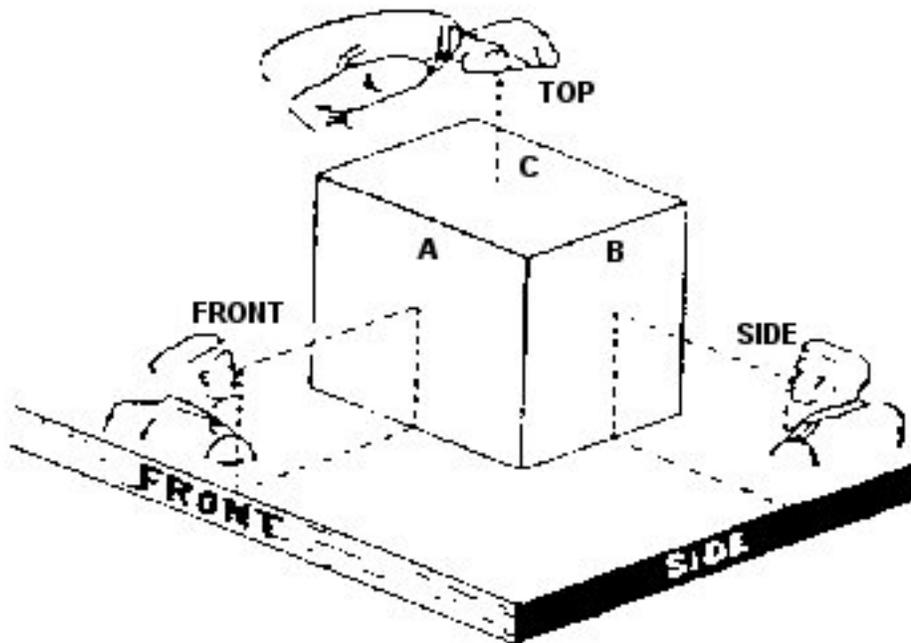

Figure 1. Print or Isometric View
2.4. Print or Isometric View. A print or isometric view is a guide for the fuel systems maintenance specialist. It is the copy of the drawings, which includes dimensions of the structure or equipment. It will have most of the information you need to perform maintenance. A print usually has three views: top, front, and side or end views. These views are made up of lines and symbols that you can see when the structure is viewed from these positions, as shown in Figure 1. The front detail (A) shows how an object would look to an observer who views it from the front; the side detail (B) shows how the object looks from the side; and the top detail (C) shows how it would look from the top.